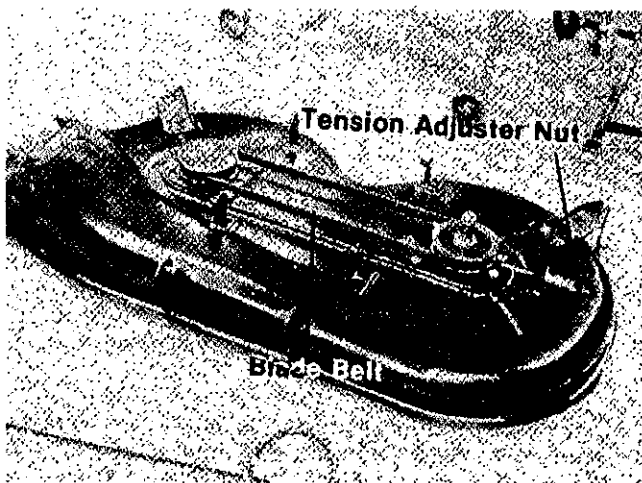

FIGURE 38.
4. Loosen the tension adjusting nut. See figure 38.
3. Tighten the tension adjustment nut until the large spacer is not loose. See figure 38.